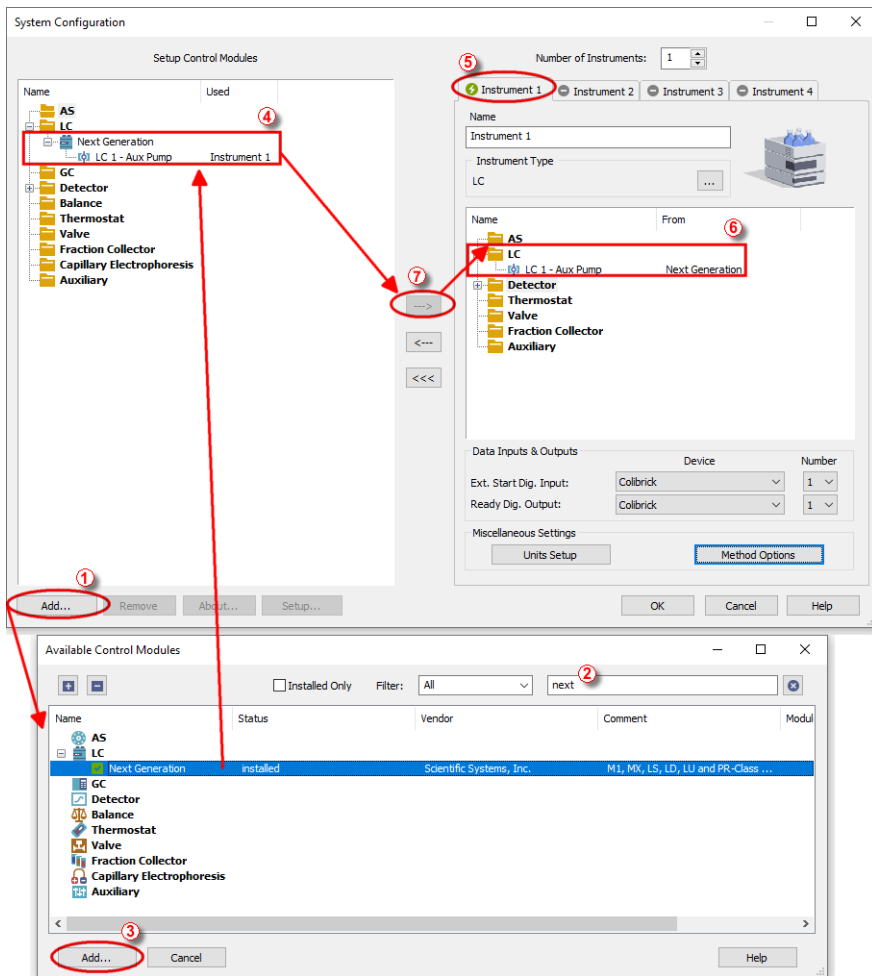

Fig 3: How to Add SSI Next Generation pumps module
- Press the **Add** button (1 on Fig 3 on pg 4.) to invoke the **Available Control Modules** dialog.
- You can specify the search filter (2) to simplify the finding of the driver.
- Select the correct item and press the **Add** (③ on **Fig 3** on pg 4.) button. Each device with already created UNI profile should have its own item named accordingly in the **Available Control Modules** dialog.